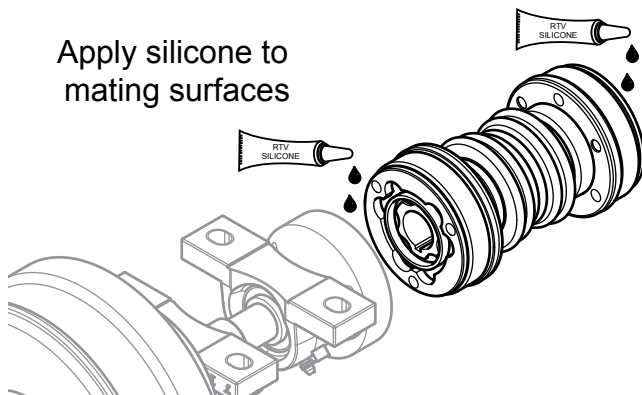

Figure 12. Apply RTV Silicone
1. Apply a thin coat of RTV silicone (Figure 12) to mating surfaces of CV axle assembly and cross shaft coupler.